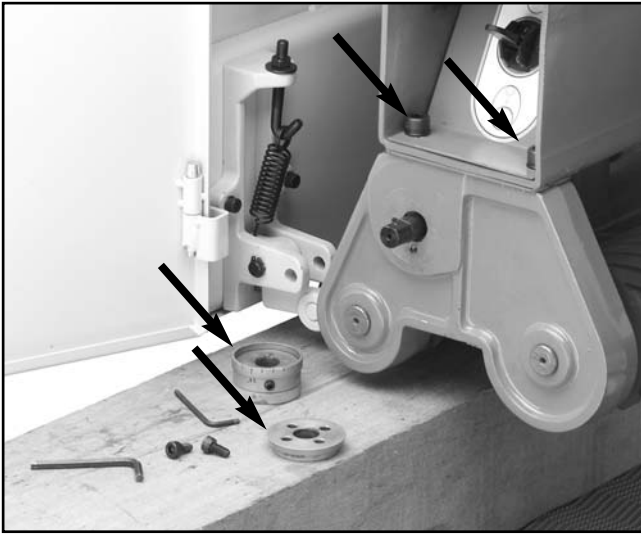

Figure 29. Remove platen adjustment knob, indicator plate, and large cap screws.
4. To remove the V-belts from the roller pulley, the roller needs to be removed. Open the left-hand access door and remove the platen micro-adjust knob by loosening the setscrew that secures the face. The plate underneath the knob is secured to the casting by two setscrews—remove these. **Figure 29** shows the knob and indicator plate removed from the casting.
5. Remove the large cap screws, also shown in **Figure 29**, to loosen the casting on the roller shafts.